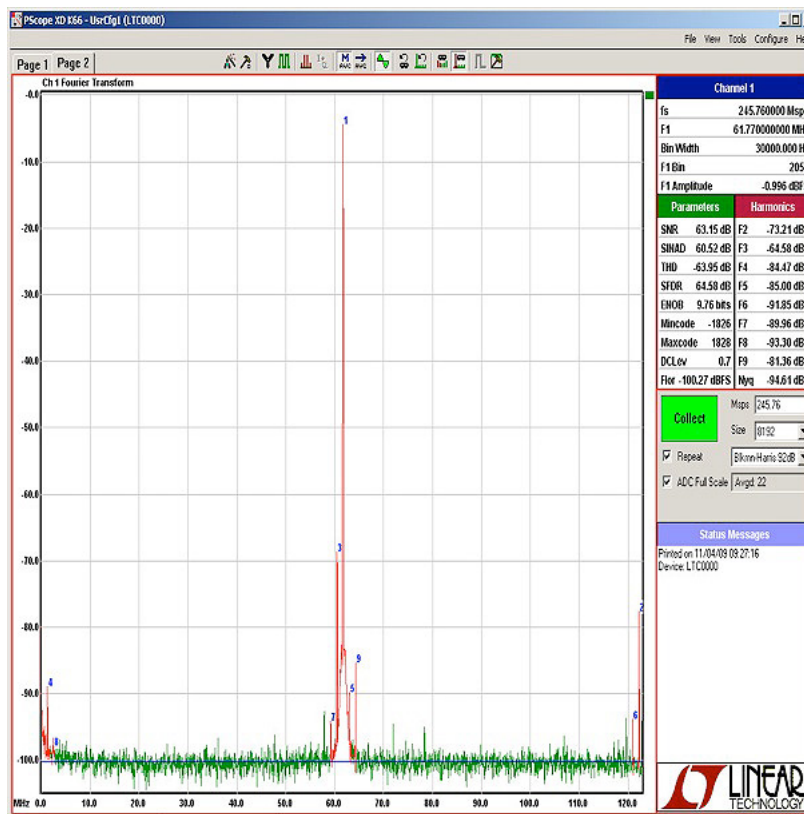

Figure 2. PScope Screen Shot
9. Click the Collect button (see Figure 2) to begin acquiring data. The Collect button then should change to Pause. To stop data acquisition, click the Pause button.